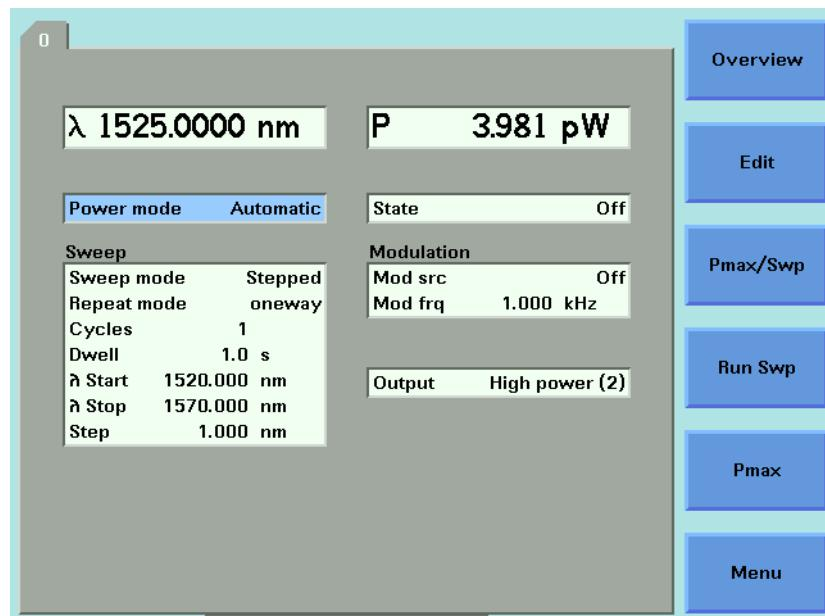

Figure 63 Setting High Power parameters
- <*High Power (2)*>, a high power optical output, for example, for use in testing Erbium Doped Fiber Amplifiers (EDFAs), you see a screen similar to Figure 63 ,
- 6 If [Power Mode] is not set to <Manual Att.> (see Figure 63 ), that is, it is set <Automatic>, perform the following steps: